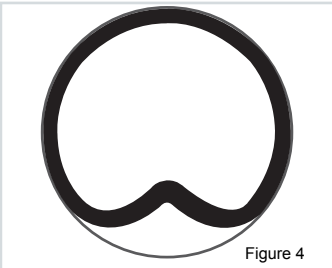

Figure 4
4. Each piece of Spiralflex should be slightly bent inward (Figure 4) on the side **opposite** the taped seam to allow the compressed tube to fit inside the duct.